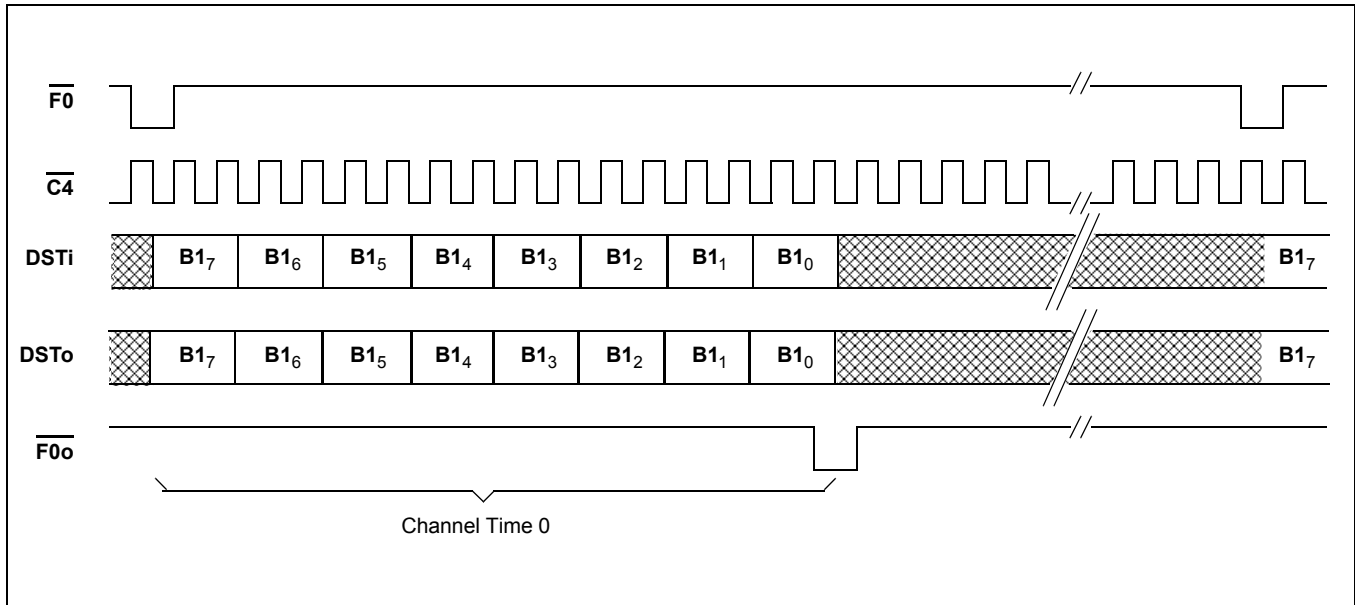
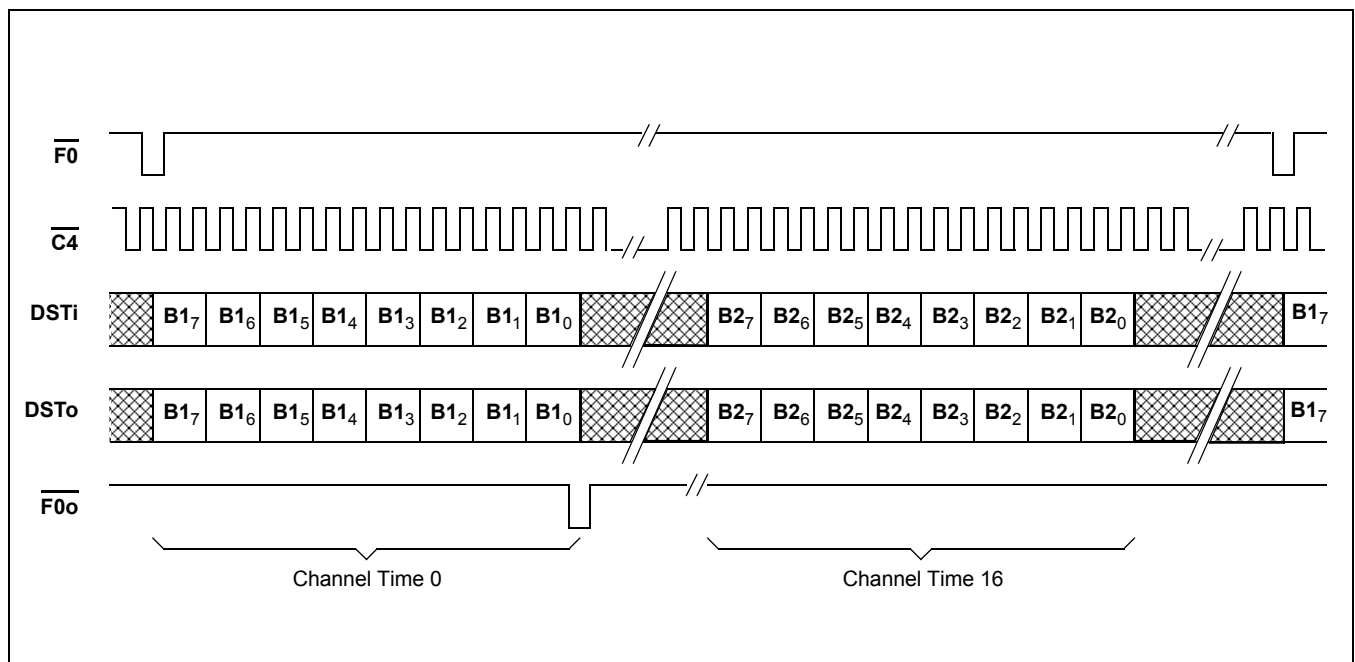
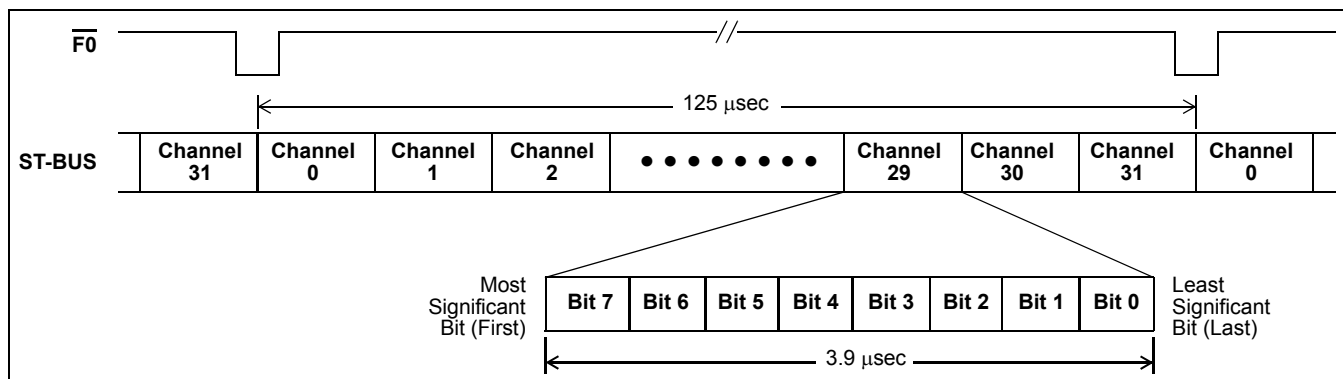

Figure 3 - DV Port - 80 kbit/s (Modes 2, 3, 6)
Figure 4 - DV Port - 160 kbit/s (Modes 2, 3, 6)
Figure 9 - ST-BUS Format
In DIGITAL NETWORK (DN) mode there are three channels transferred by the DV and CD ports. They are the B, C and D channels. The B1 and B2 channels each have a bandwidth of 64 kbit/s and are used for carrying PCM encoded voice or data. These channels are always transmitted and received through the DV port (Figure 3, Figure 4, Figure 5, and Figure 6). The C-channel, having a bandwidth of 64 kbit/s, provides a means for the system to control the DNIC and for the DNIC to pass status information back to the system. The C-channel has a Housekeeping (HK) bit which is the only bit of the C-channel transmitted and received on the line. The 2B+D channel bits and the HK bit are double-buffered. The D-channel can be transmitted or received on the line with either an 8, 16 or 64 kbit/s bandwidth depending on the DNIC's mode of operation. Both the HK bit and the D-channel can be used for end-to-end signalling or low speed data transfer. In DUAL port mode the C and D channels are accessed via the CD port (Figure 7) while in SINGL port mode they are transferred through the DV port (Figure 5 and Figure 6) along with the B1 and B2 channels.
The DV port transfers data or PCM encoded voice to and from the line according to the particular mode selected by the mode select pins. The modes affecting the configuration of the DV port are MOD or DN and DUAL or SINGL. In DN mode the DV port operates as an ST-BUS at 2.048 Mbit/s with 32, 8 bit channels per frame as shown in Figure 9. In this mode the DV port channel configuration depends upon whether DUAL or SINGL port is selected. When DUAL port mode is used, the C and D channels are passed through the CD port and the B1 and B2 channels are passed through the DV port. At 80 kbit/s only one channel of the available 32 at the DV port is utilized, this being channel 0 which carries the B1-channel. This is shown in Figure 3. At 160 kbit/s, two channels are used, these being 0 and 16 carrying the B1 and B2 channels, respectively. This is shown in Figure 4. When SINGL port mode is used, channels B1, B2, C, and D are all passed via the DV port and the CD port is disabled. See CD port description for an explanation of the C and D channels.